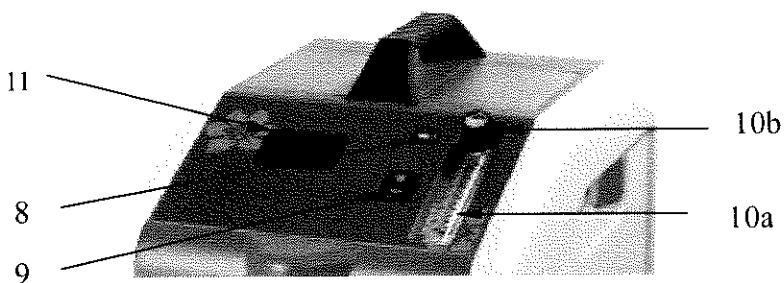

Figure 7
8. Resettable current overload protector**9. Power switch: ON / OFF****10. Oxygen flow meter (Figure 7)**